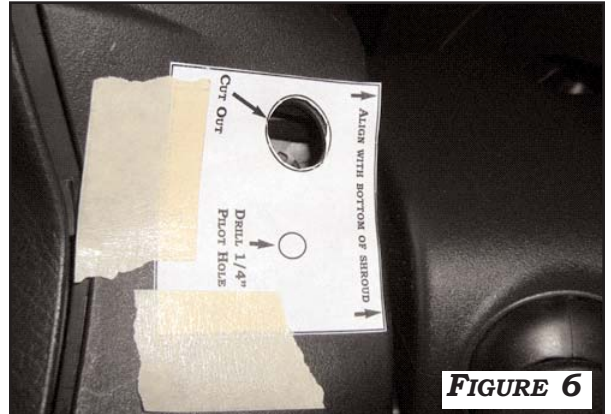

FIGURE 6
1. USE THE **SWITCH HOLE CUTTING TEMPLATE** ON LAST PAGE, PLACE THE TEMPLATE ON THE RIGHT SIDE OF THE STEERING SHROUD AS SHOWN AND DRILL TWO A **(1/4")** PILOT HOLE. **FIGURE 6.**